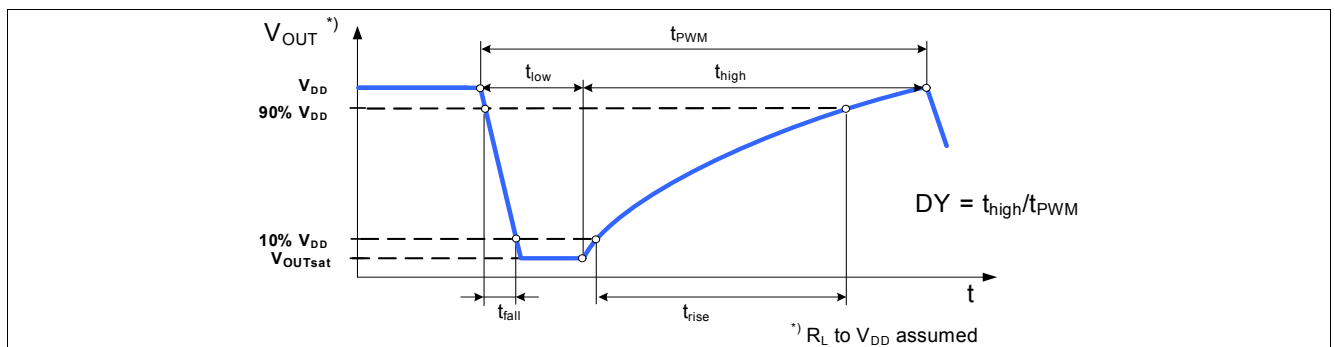

Figure 5-1 Output Characteristic
- 4) Depends on External R_L and C_L , See Figure 5-1